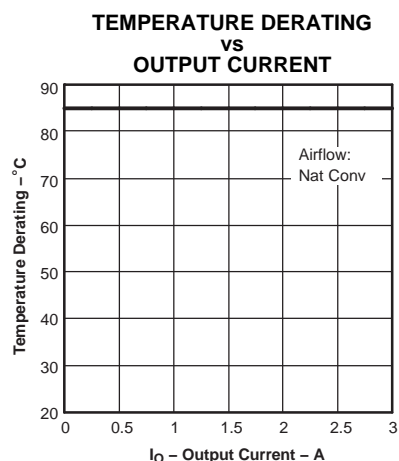

Figure 4.
- (2) The temperature derating curves represent the conditions at which internal components are at or below the manufacturer's maximum operating temperatures. Derating limits apply to modules soldered directly to a 100 mm × 100 mm double-sided PCB with 1 oz. copper. Applies to Figure 4.